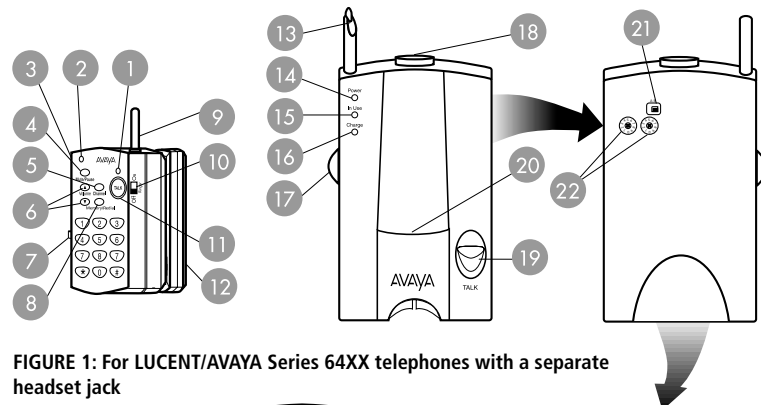

FIGURE 1: For LUCENT/AVAYA Series 64XX telephones with a separate headset jack
#### SETUP (REFER TO FIGURE 1)
1. Connect the LKA10 Amplifier to your telephone using Figure 1.
2. Using the Short Cord (23) provided, plug one end into the LKA10 Telephone Jack (24) and the other end into your telephone's Headset Jack (2).
3. Plug the Ring Detector (22) into the LKA10 "Ring Detector or Handset" Jack (2).
4. Now connect the AC Adapter (25) to the LKA10 AC Adapter Jack (26) and into a wall outlet. The Power Indicator (7) will light.
5. Peel the backing from one end of the Ring Detector (22) and stick it to the center of the telephone's ringer or speaker.
6. Make sure that the Handset/Ring Detector Configuration Switch (21) is in position B (the ring detector position).
7. Make sure to remove the battery insulator pull tab located between the Remote Unit and the Battery Pack (2).
8. Gently slide the Remote Unit and Battery Pack into the Remote Unit Charging Well (2) until the Charge Indicator (2) lights.
9. Connect your Headset to the Remote Unit Headset Jack (3). Press the Headset Cable into the Headset Cable Retainer (7). If you are using a Headset whose cable terminates in a Quick Disconnect™ (QD) module, you will need the QD to 2.5mm Headset Adapter Cable (24) provided.
1. Make sure that the Remote Battery Pack (2) is securely seated in the Remote Unit Charging Well (2) and/or fully charged. The Battery Pack must charge for about 8 hours.
2. Check that all cords are correctly connected and firmly in place. Pay special attention to ensure that the telephone handset cord and the Short Cord (23) are properly connected.
3. Adjust the Listen Volume Control Buttons (6).
5. Make sure that the telephone is connected properly to the Base Unit. See Figures 1 and 2.
6. If you are using a telephone with a separate headset jack, make sure that the Handset/Ring Detector Configuration Switch (21) is in position B (the ring detector position).
7. If you are using a telephone without a separate headset jack, make sure that the Handset/Ring Detector Configuration Switch (21) is in position A (the handset position).
8. Separate and reconnect the Battery Pack (2) and the Remote Unit.
9. Return the Remote Unit to the Remote Unit Charging Well (2) for 5 seconds to re-establish a communication link.
1. Make sure that the Mute/Pause Button (4) is off.
2. Make sure that your telephone is connected properly to the Base Unit. See Figures 1 and 2.
3. If you are using a telephone with a separate headset jack, make sure that the Handset/Ring Detector Configuration Switch (21) is in position B (the ring detector position).
4. If you are using a telephone without a separate headset jack, make sure that the Handset/Ring Detector Configuration Switch (21) is in position A (the handset position).
5. Adjust the Talk Volume Control (7).